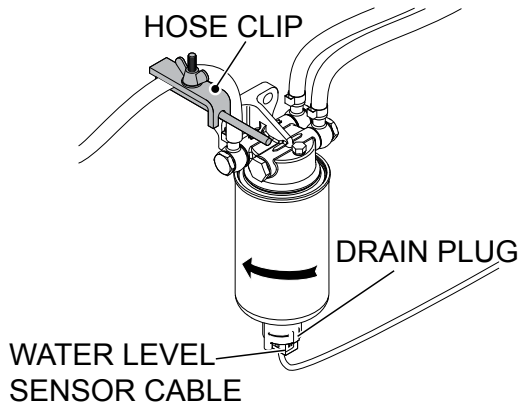

Figure 40. Fuel Prefilter
1. Block the fuel feed line with a hose clip (Figure 40) between the fuel tank and fuel prefilter.